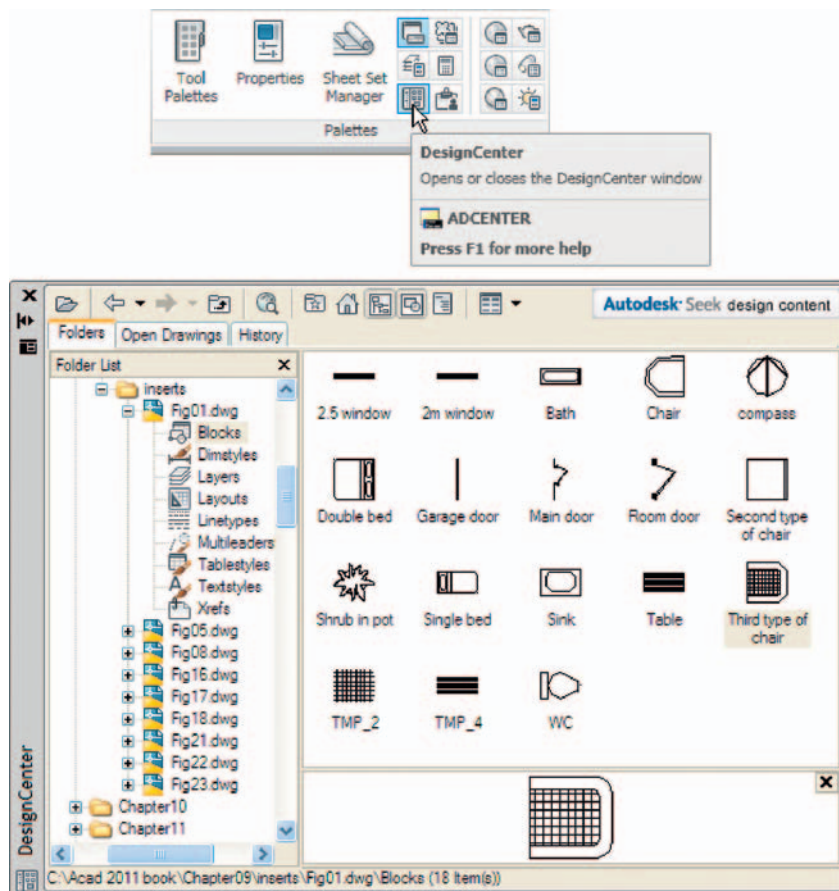

Fig. 1.11 A left-click on the **View/DesignCenter** icon brings the **DesignCenter** palette to screen
**DesignCenter** palette: Fig. 1.11 shows the **DesignCenter** palette with the **Block** drawings of building symbols from which the block **Third type of chair** block has been selected.